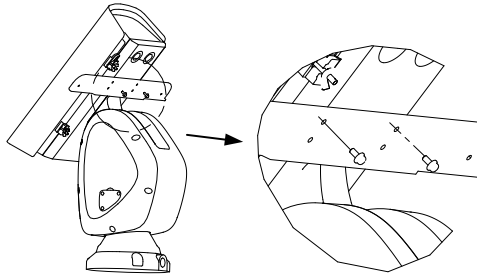

Figure 2-12 Secure the IR Bracket
- 1) Align the screw holes on the IR bracket with the screw holes on the housing as shown in Figure 2-12. Insert and tighten the two M4\*10 screws to secure the bracket.